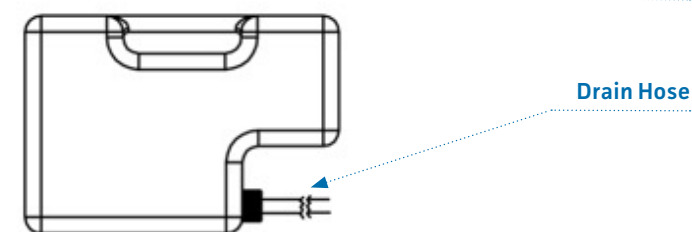

Figure 6
4.Usage Instructions for Water Tank: Water tank can be used in two ways. The first method is for direct use. When the water tank is full, the machine stops operating and enters standby mode. The water full indicator light is on and the buzzer sounds alarms. At this point, the water tank shall be removed to empty the water, and then reinstalled to continue operation. The second method is for continuous drainage. As shown in Figure 6, remove the water tank, unscrew the screws and the water plug, and then install the drain hose, finally reinstall the water tank onto the machine.